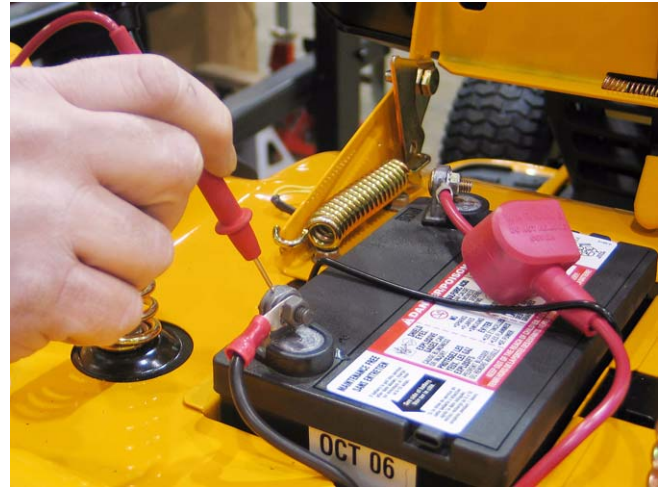

Figure 39.20
39.20. Voltage drop tests are useful on both the positive or the negative side of the system. We will concentrate on the negative side to begin with. See Figure 39.20.